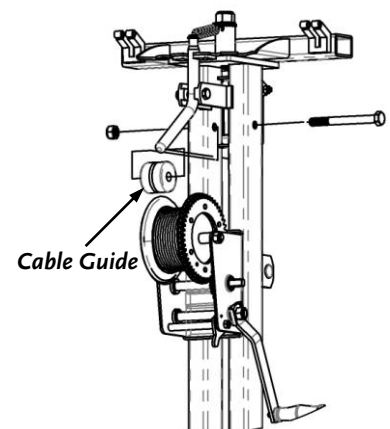

Figure 31
3. Remove the Cable Guide (**Figure 31**) using a 21mm Socket on the Bolt and a 22mm Wrench on the Nut.